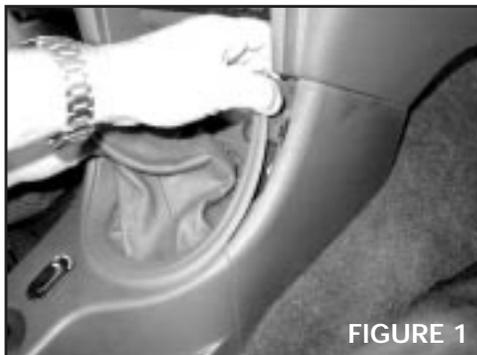

FIGURE 1
3. Using both hands, place fingers underneath each side of shifter boot grasping boot rim and pull up to remove boot from console (Refer to Fig. 1 & 2). **NOTE:** On some models there is a layer of sound deadening material inside console. Remove and save it for reassembly to reduce engine and road noise.